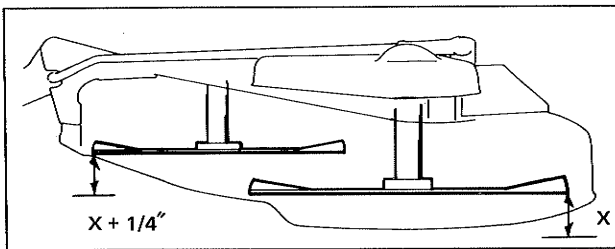

Figure 41. Leveling 42'' Mower
3. Measure the distance from the front tip of the center blade to the ground, and note that measurement. (See figure 41).
4. Measure the distance to the ground from the rear tips of the left and right blades. Compare these measurements with the measurement from the front tip of the center blade. The front tip of the center blade should be 1/4 inch (6 mm) higher than the rear tips of the side blades (figure 41).